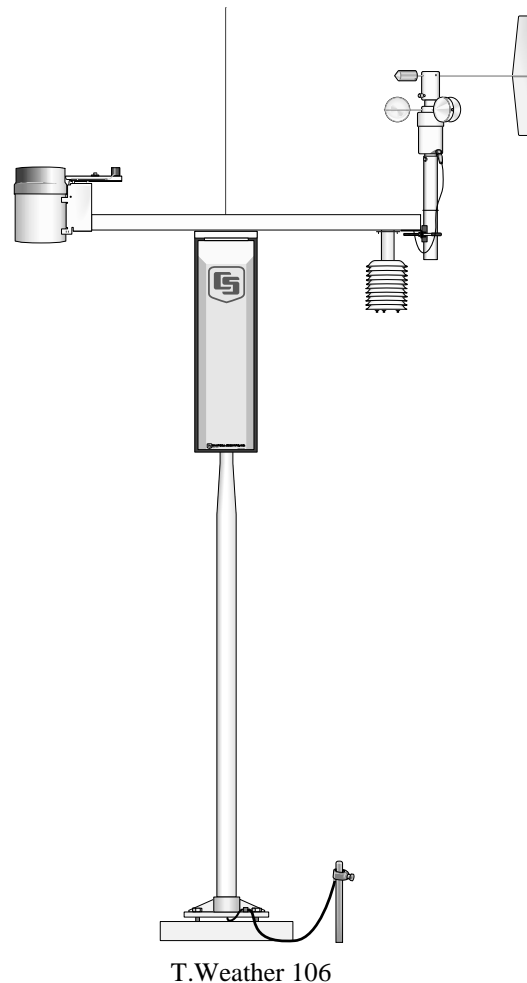

FIGURE 3-1. T.Weather 106 Instrumentation Mounted on the ET Tower
*The weather station datalogger, power supply, sensor connection panel, communications devices, and data retrieval peripherals are mounted in the T.Weather 106 enclosure at the locations shown in Figure 3-1. Components include:*
- (1) T.Weather 106 Enclosure*